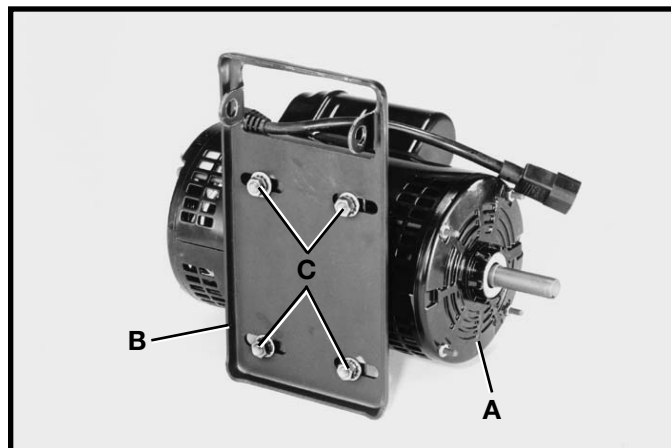
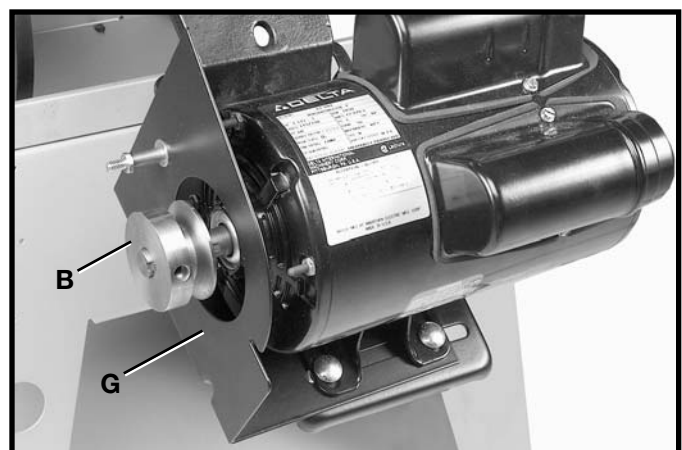

Fig. 15
Fig. 22
1. Assemble the motor (A) to the motor mounting plate (B) as shown in Fig. 15, using four 5/16-18 carriage bolts, flat washers, star washers, and hex nuts (C). Assemble star washers on bolts, place bolts through holes, then assemble lockwashers and hex nuts.
5. Position belt and pulley guard bracket (G) Fig. 22, so that the motor pulley (B) is centered and through the hole in the belt and pulley guard bracket.
6. Use a straight edge to align the motor pulley with the arbor pulley. If necessary, adjust the motor pulley (B) Fig. 22 in or out on the motor shaft. Tighten the four hex nuts [refer back to (C) Fig. 15] that fasten the motor to the motor mounting plate.